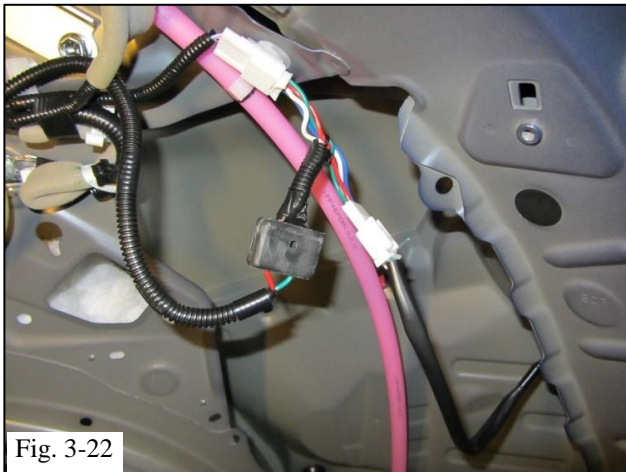

Fig. 3-22
- (u) Connect the trailer module harness (T-type connection with red, green, blue and white wires) between the rear combination lamp assembly RH pigtail and the vehicle wire harness (Fig. 3-22).